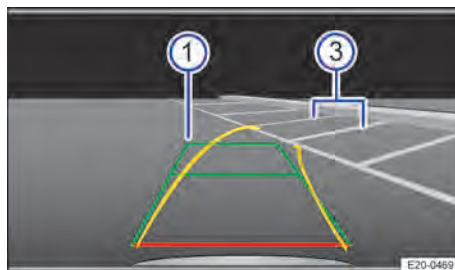

Fig. 129 Infotainment system screen display: driving towards the selected parking space.
4. Steer so that the yellow lines lead into the parking space. The green and yellow lines must be aligned with the side limit lines → Fig. 129 ③.